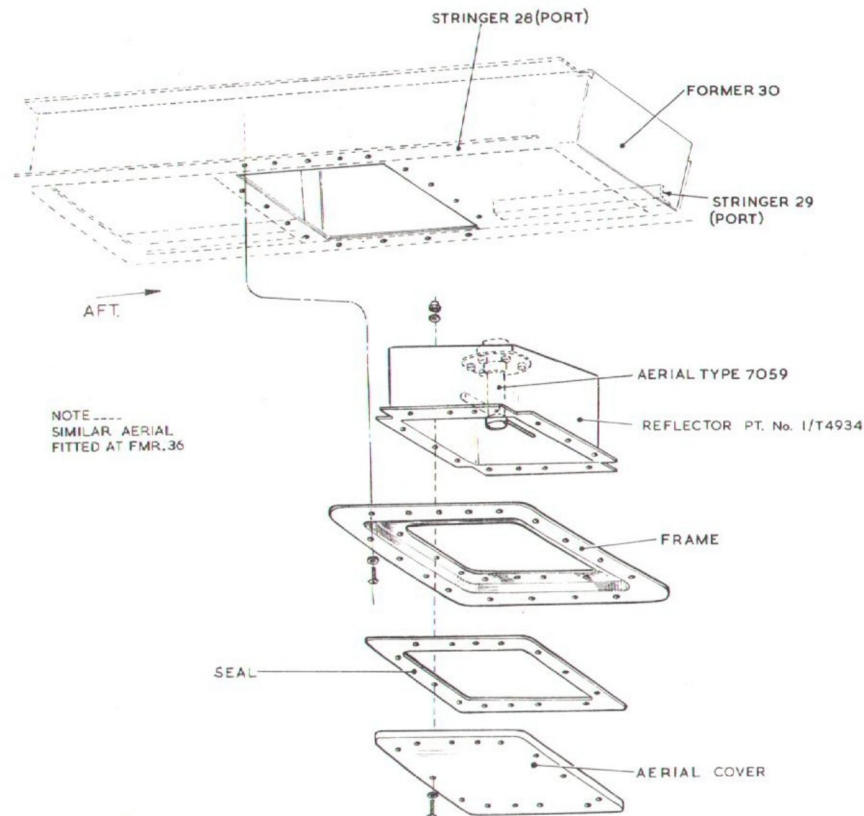

Fig.2 - Details of aerals
14. The transmitting and receiving aerals, Type 7059, are fitted in the under side of the fuselage at formers 30 and 35. The aerals are dipoles and each one is housed in an aluminium reflector box, Pt No.1/T4934. A fibre-glass cover is used to seal the assembly as illustrated in fig.2.